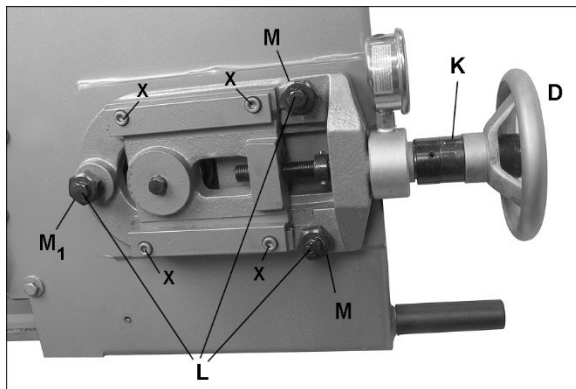

Figure 7-3: blade tension and tracking
Refer to Figure 7-3.
Blade tension has been set by manufacturer at approximately 1800 kg/cm² (25,000 psi) for the supplied blade, but should be verified by the operator. Turn handwheel (D, Figure 7-3) clockwise; if collar (K) slips out of position, then blade is properly tensioned. Continue turning handwheel until collar re-engages. NOTE: Simply turn handwheel, do not press on it.
If tension mechanism will not move blade, loosen and then re-tighten socket head cap screws on gibs (X, Figure 7-3).
4. Loosen center locking screws (L, Figure 7-3) in all three hex adjustment screws (M) on tensioning mechanism.